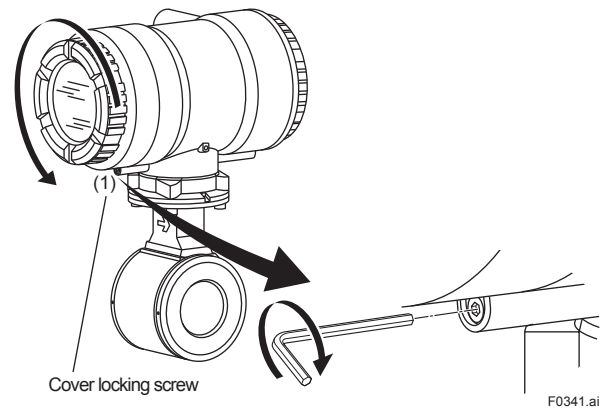
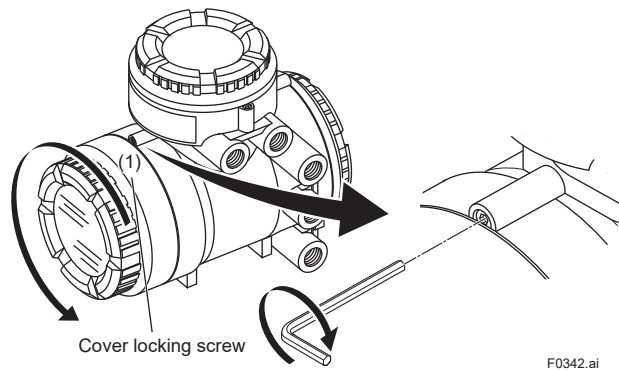

Figure 3.6.1 Removing the Display Cover (Integral Flowmeter)
Figure 3.6.2 Removing the Display Cover (AXG4A Remote Transmitter)
- Using the wrench, loosen the cover locking screw (1) (See Figure 3.6.1 and Figure 3.6.2) clockwise to unlock the cover. Upon shipment from the manufacturing plant, the cover is locked. Hold the flowmeter with your hand. Remove the cover by rotating it counterclockwise.
(3) Installing the Cover
- Tighten cover locking screw (1) (See Figure 3.6.1 and Figure 3.6.2) counterclockwise using a hexagonal wrench (nominal size 3) to lock the cover.